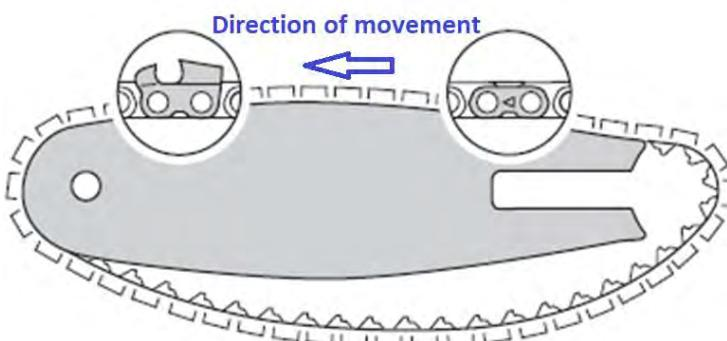

Fig. 5
- Turn the wingnut (4) counterclockwise until the chain sprocket cover can be removed.
- Position the chain in the groove of the guide bar, starting at the tip. Make sure the arrows on the tie straps points to the direction of chain movement. (Fig. 5 refers)